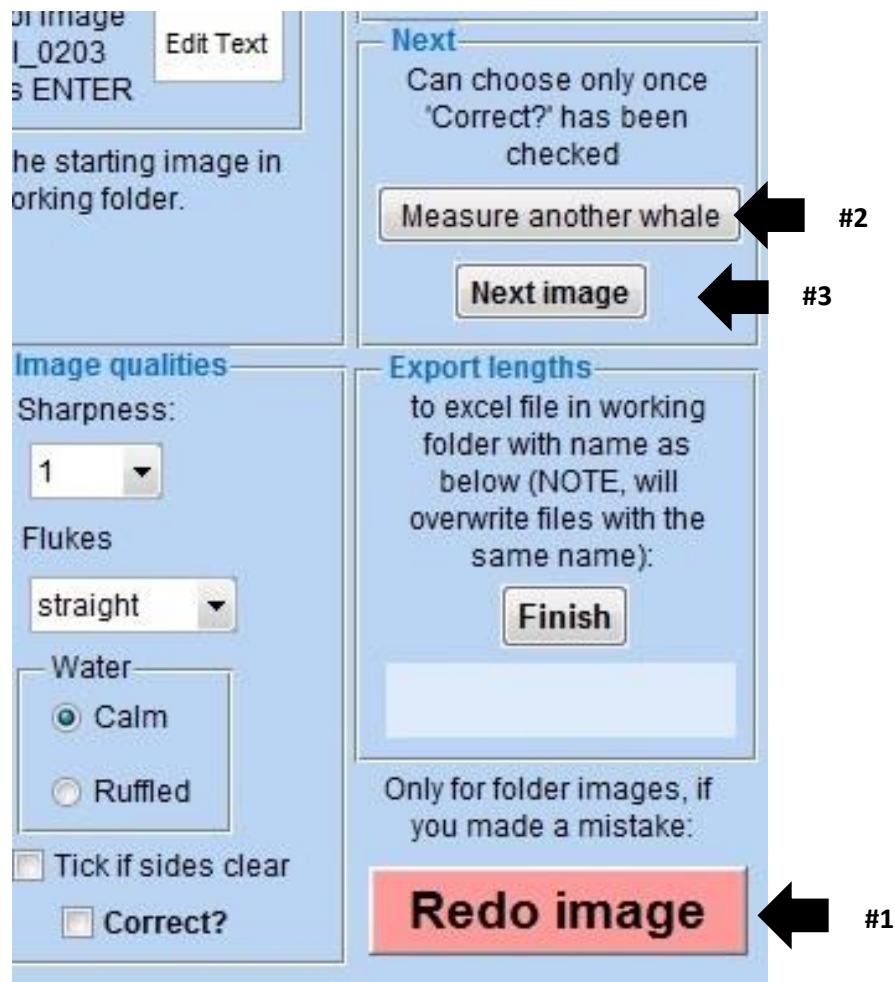

Figure 13. Three options after measuring a whale in an image.
7. Set the image qualities (OPTIONAL) in the 'Image qualities' panel: Sharpness from 1-4, fluke position – straight, @ surface or drooped; water surface – calm or ruffled, and tick if the whale's sides are clear (or leave unchecked if not), then check the 'Correct?' box. Once this box is checked you can choose out of 3 next steps (Fig. 13):